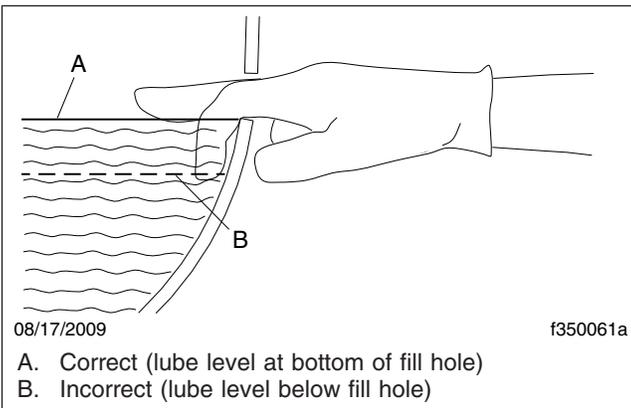

Fig. 3, Checking Axle Lubricant Level
4. Check that the lubricant is level with the bottom of the fill hole. See **Fig. 3**. If low, check for oil leaks, and correct as needed. Add oil to the level of the fill plug, using the lubricant recommended in **Table 1**.